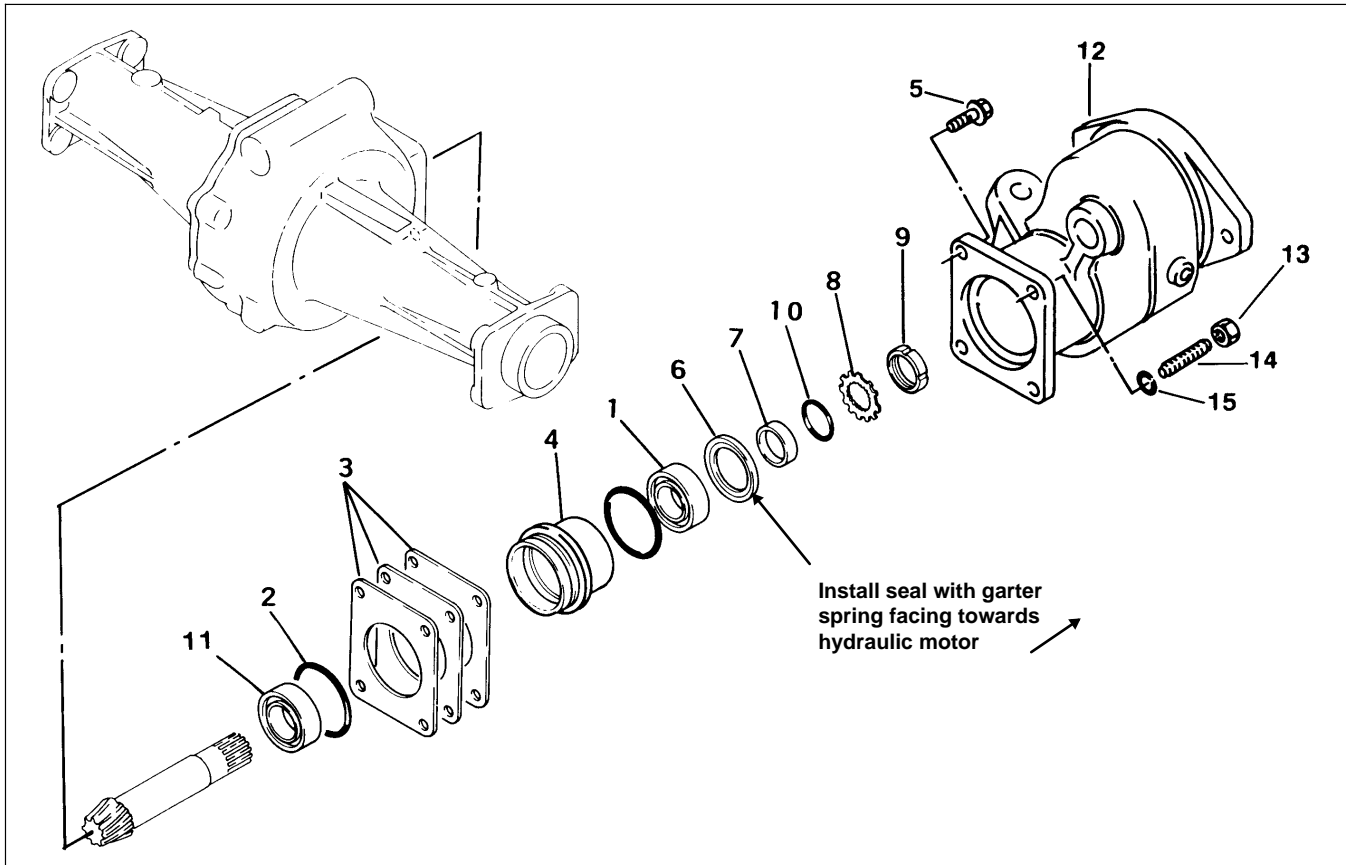

Figure 23
2. Remove bolts (Fig. 23, Item 5) securing adapter to axle housing and remove adapter.
1. Remove sleeve (Item 4) from adaptor case. Straighten tab washer (Fig. 23, Item 8) and remove sleeve (lock) nut (Item 9).